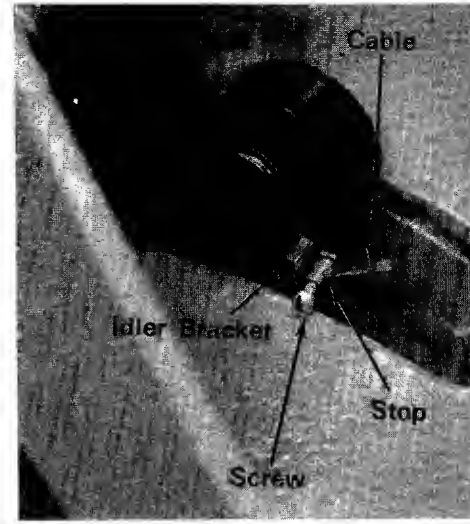

Figure 26
- 2 Loosen the screw in the stop. (See figure 26.)